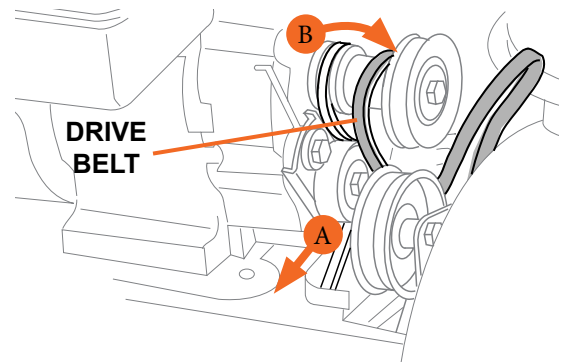

Figure 23
6. See Figure 23 and follow the steps below: